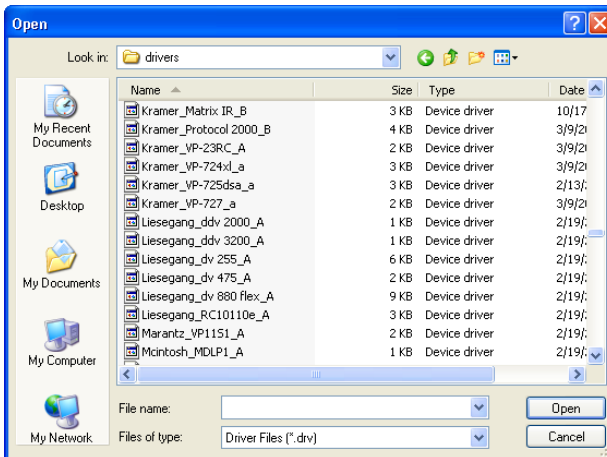
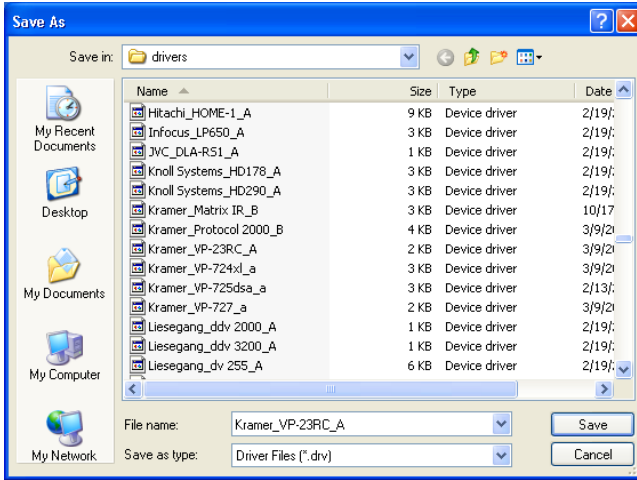

Figure 5: Importing a Kramer Driver File
Figure 6: Exporting a Kramer Driver File
- Import one or more drivers (Import Drivers..., see Figure 5), or export an existing driver (Export Driver..., see Figure 6)